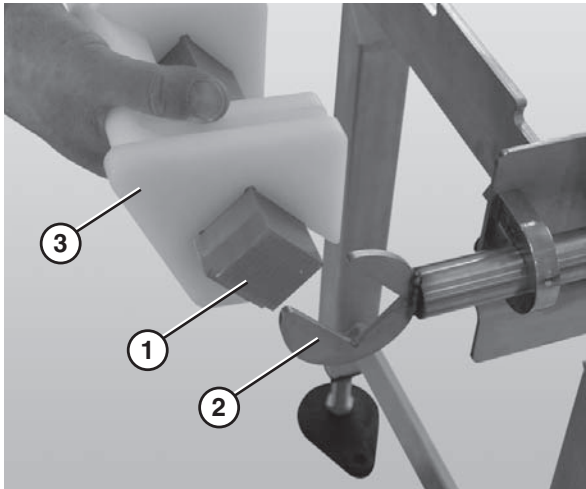

Figure 74
4. After all tracking pucks (**Figure 74, item 3**) are installed, slide the nose bar drive or transfer post (**Figure 74, item 1**) into the nose bar drive weldment or idler hands (**Figure 74, item 2**).